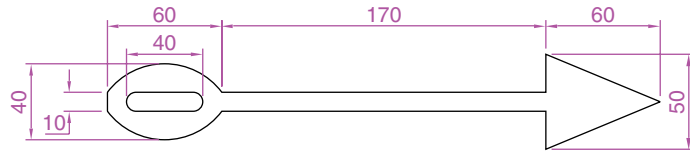

Fig. 3.41 Exercise 10
10. Construct Fig. 3.41 using the **Line** and **Arc** tools. Then change all widths of lines and arcs to a width of 2 with **Polyline Edit**.